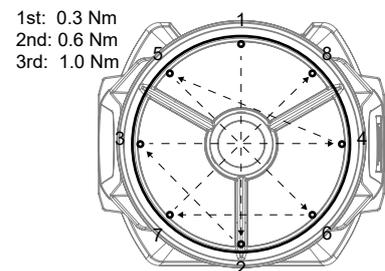

Figure 24 Criss-cross mounting
2. When mounting the front ring, cross-tighten the permabond treated screws as illustrated on figure 24. Make sure to tighten the screws with increasing torque over three cross-tightening sequences to ensure the correct ingress protection.